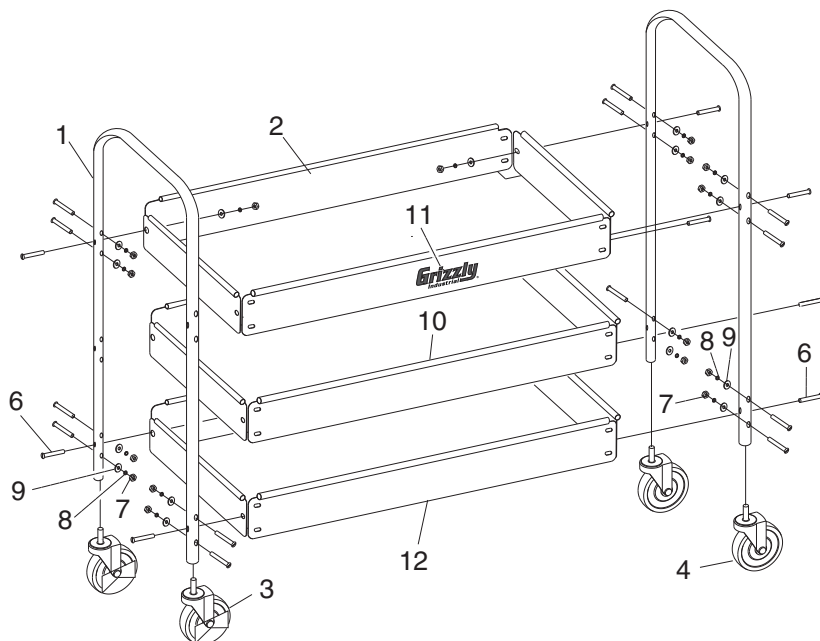

**Figure 5.** Casters installed.
5. Thread the swivel casters onto the ends of one handle, then thread the locking swivel casters onto the ends of the other handle (see **Figure 5**).